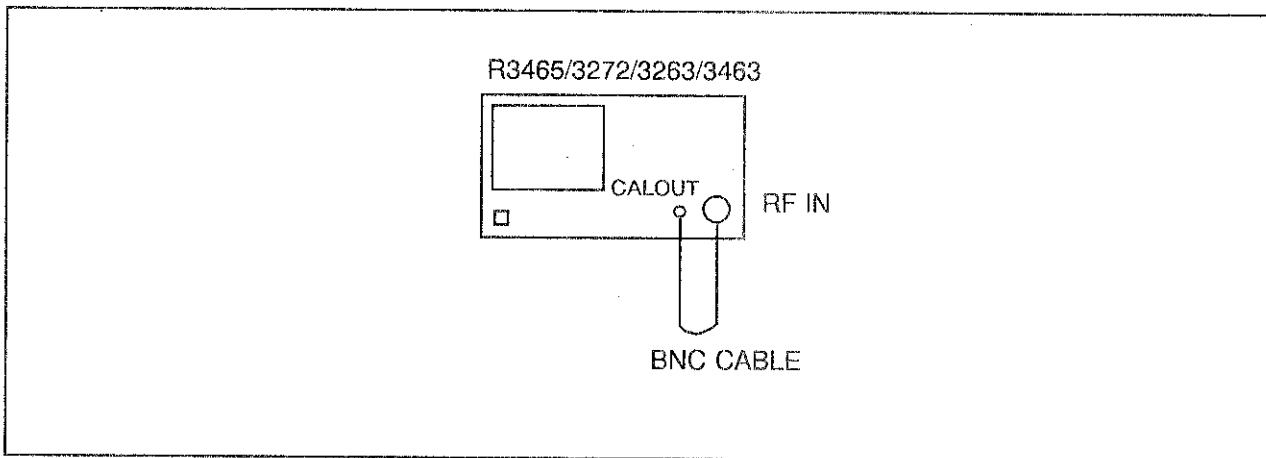

Figure 1-5 Resolution Bandwidth Accuracy/Selectivity Setup
(1) Connect the R3465/3272/3263/3463 CALOUT to the RF IN as shown in Figure 1-5.
(2) Press SHIFT , PRESET keys and set the controls as follows: